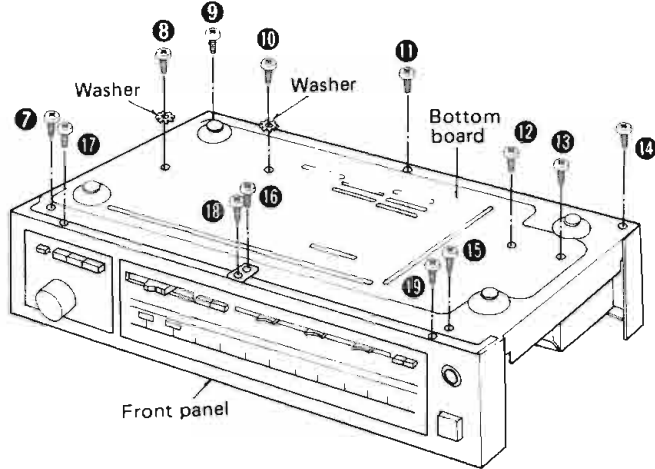

Fig. 2
2. Remove the 10 setscrews (Fig. 2 : ⑦ ~ ⑯) of the bottom board.
2. Remove the 3 setscrews (Fig. 2: ⑰ ~ ⑱) of the front panel.